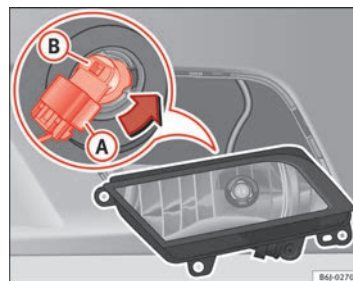

Fig. 168 Fog light
- Remove connector ⇒ Fig. 168 **A** from the bulb.
- Turn bulb holder ⇒ Fig. 168 **B** to the left and pull.